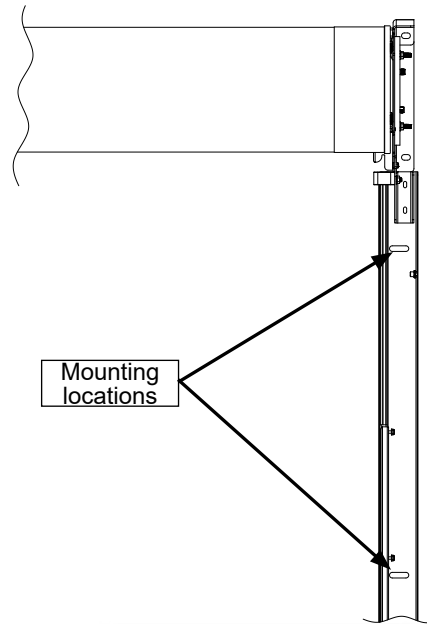

Figure 8: Mounting locations
7. Mount Face Frames using hardware appropriate for the wall construction (supplied by installer) in the mounting slots provided in the Face Frames (Figure 8).